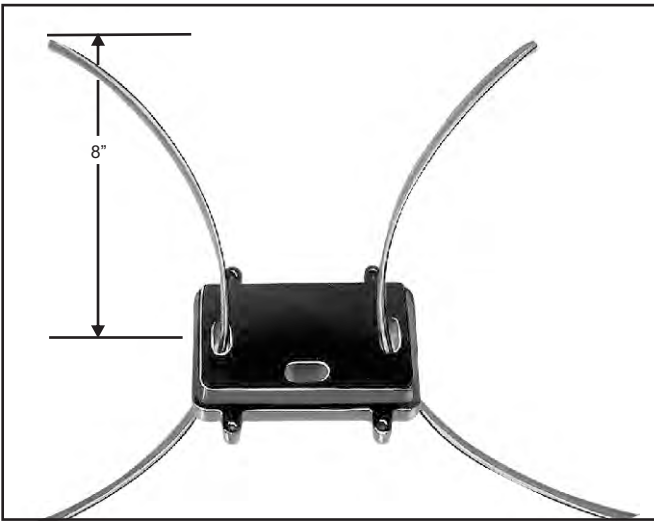

Figure 3
Feed the ends of the cables through the appropriate hole in the base. Allow eight (8) inches of cable to extend above the top of the base. See Figure 3.